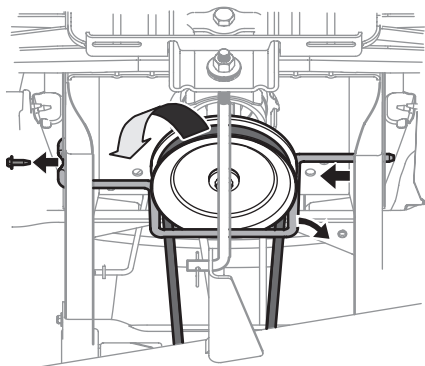

Figure 4-1
- Remove the hex screw securing the engine pulley keeper rod to the frame. See Figure 4-1.